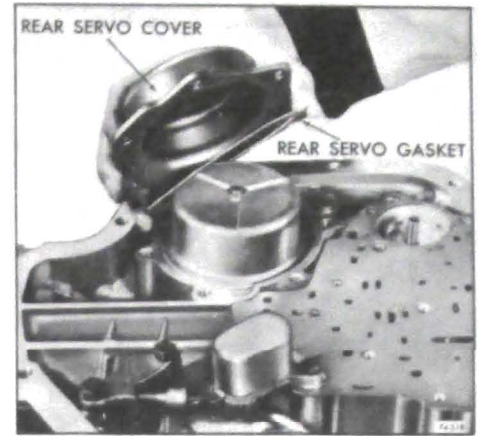

Figure 76-518
1. Remove rear servo cover attaching bolts, servo cover, and gasket. (Discard gasket). See Figure 76-518.